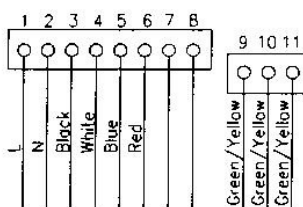

Fig. 19
6. Slacken terminals 1 - 6, 9 and 10 at the bottom of the box and remove the mains supply cable, and 4-core plus earth burner cable. (See Fig. 19)